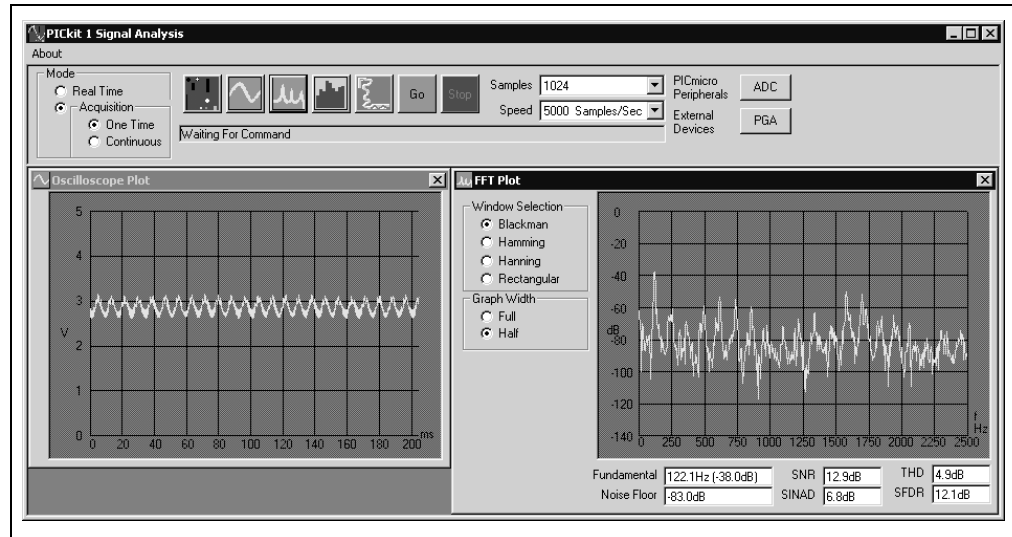

FIGURE 3-5: Measurement Results.
- a. Select Write to Register from the indicated pull-down list. (Figure 3-5, #5)
- b. Set A0 = 0. (Figure 3-5, #6)
- c. Select PGA gain from the pull-down list. (Figure 3-5, #4)
The photodiode was placed next to a fluorescent desk light. The gain was set to 16 V/V, the speed to 5000 samples/sec and the number of samples to 1024. The results are in Figure 3-5.